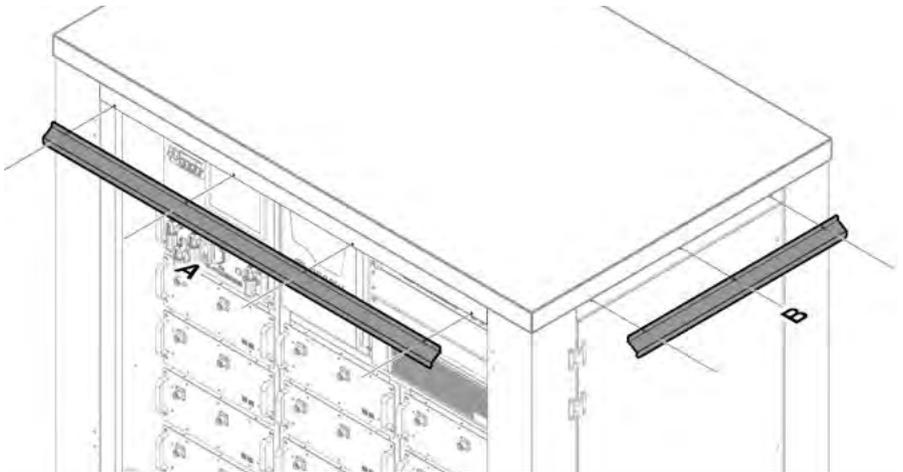

Fig. 8.18 - Rain guards installation
- Align the holes in the rain shields and screw the screws into place (Fig. 8.18).